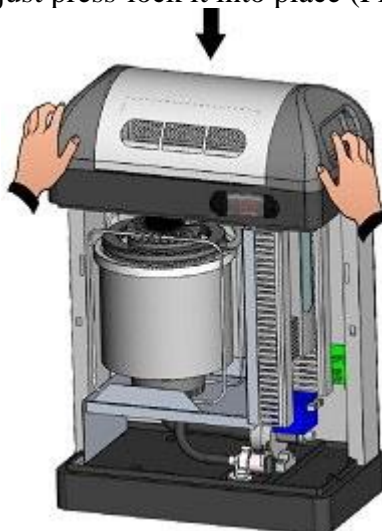

Fig. 4
5. Fit the fan-assisted distributor head on the humidifier, positioning it on the upper part of the latter; no screws are required, just press-lock it into place (Fig. 4).